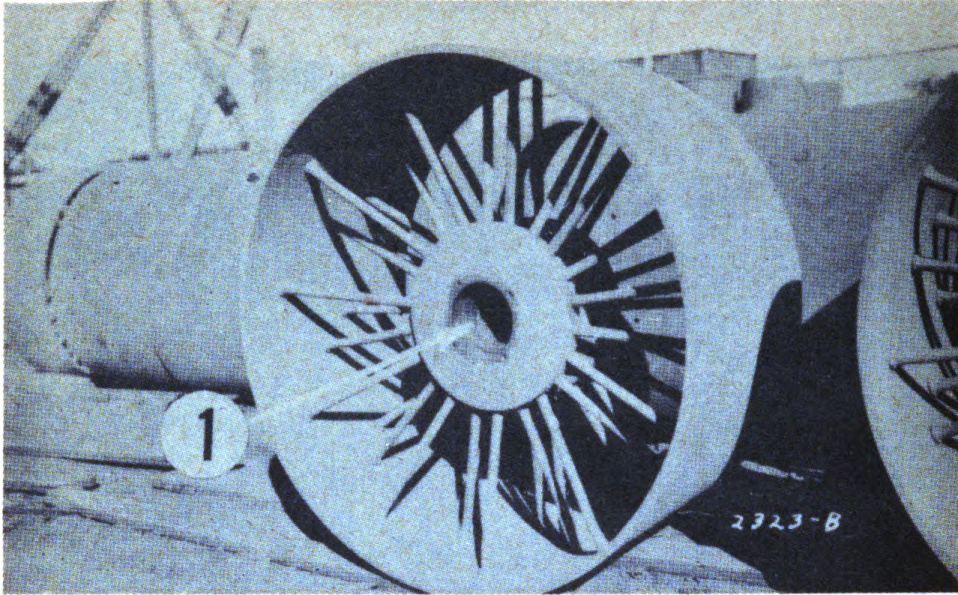

Figure 12. WHEEL HUB WITH TIMKEN CUPS
1. Drive Timken cups (1) in wheel hub against shoulder. See Figure 12.